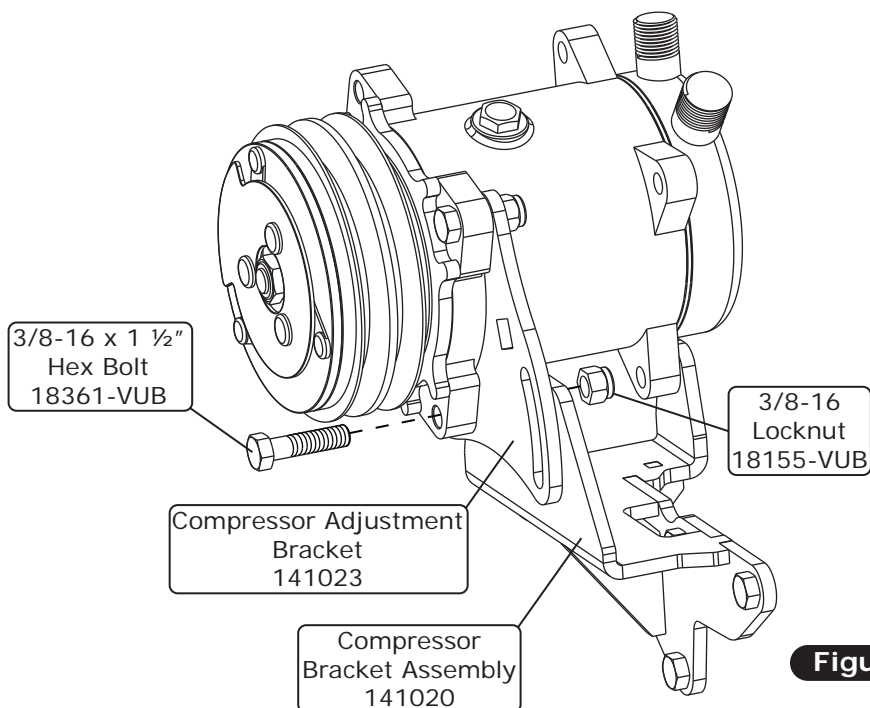

Figure 2
3. Mount the compressor onto the compressor bracket assembly. Using a 3/8-16 x 1 1/2" hex bolt on the pulley end of the compressor, insert the hex bolt through the compressor mounting tab, compressor adjustment bracket, and finally through the compressor bracket assembly. Secure with a 3/8-16 locknut (See Figure 2, below). **NOTE: Do not tighten at this time.**